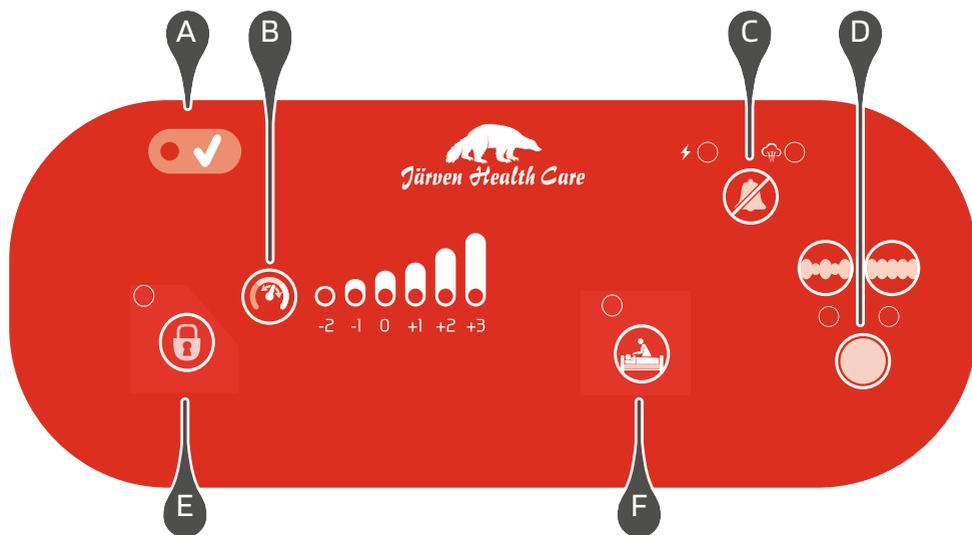

**Figure 1**
- Check the pump's fuse. (See figure 1, page 28)